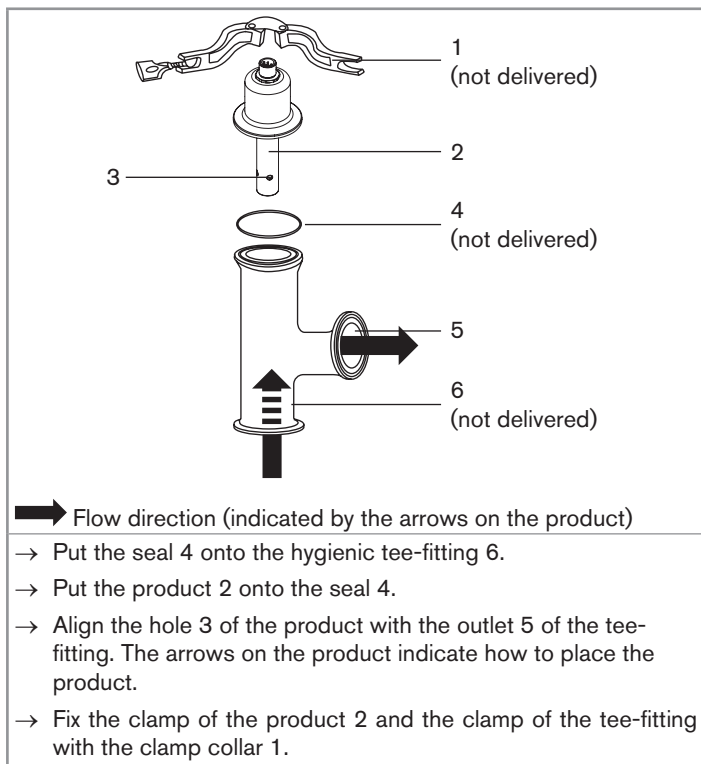
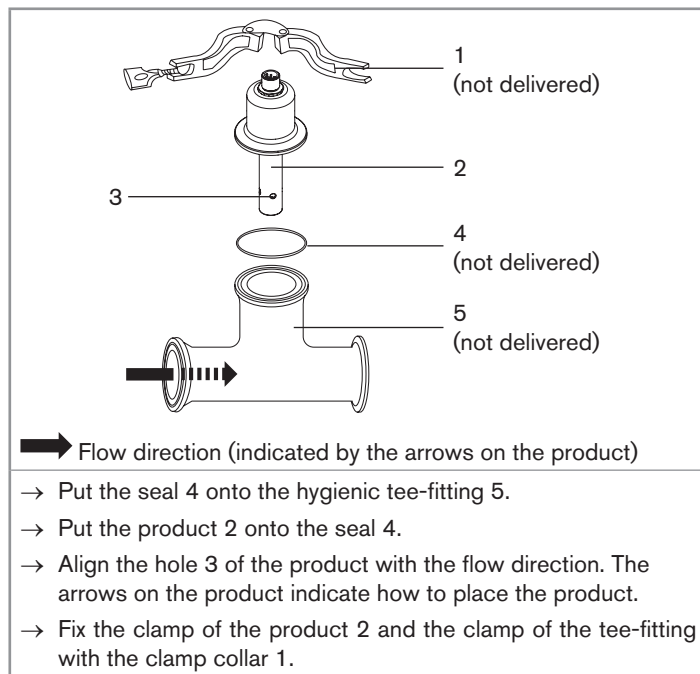

Fig. 4: Installation of a 8221 with article number 564898, 568818, 569643 or 571162 onto a pipe
Fig. 5: Installation of a 8221 with article number 564899, 562261, 568818, 569643 or 571162 onto a pipe
- For the article number **564898** carry out the mounting procedure on Fig. 4.
- For the article number **564899** or **562261** carry out the mounting procedure on Fig. 5.
- For the article number **568818** or **569643** carry out the mounting procedure on Fig. 4 or on Fig. 5.
- For the article number **571162** carry out the mounting procedure on Fig. 4 or on Fig. 5.